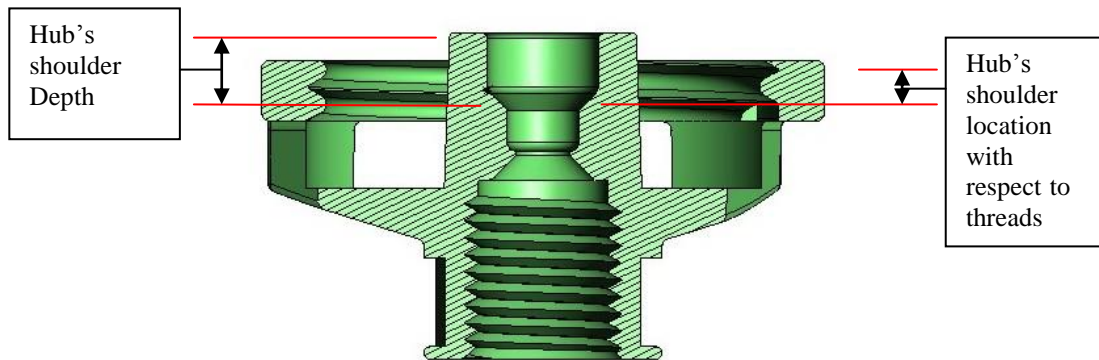

Figure 7 - Hub's Shoulder Location
1. Variations in the depth of the dispensing gun basket's hub shoulder and its location with respect to the gun basket threads (see Figure 7): If the hub shoulder dimension was too large or its location with respect to the threads was too deep, the valve's stem shoulder would not make contact and thus the valve would not open. If the shoulder was too shallow, the valve would start to open before the threads on the collar and gun basket were engaged. This condition could result in a poor seal between the can of foam and the dispensing gun resulting in foam leakage.